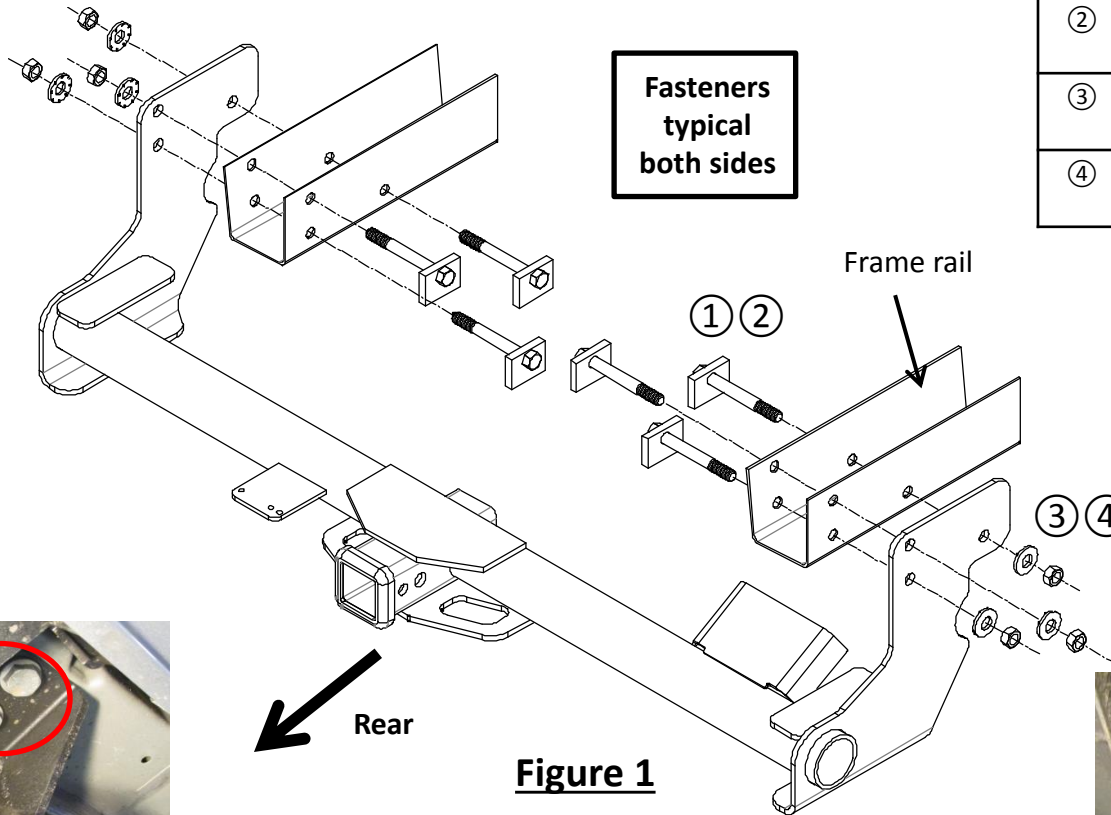

Figure 1
- Hitch installation** - raise the hitch into position and align bracket holes to outside frame rail holes. Inset bolt ① and block ② from inside of frame rail holes to the bracket holes, and loosely secure conical washer ③ and nut ④ to the hitch, see **Figure 1**.
2. Hitch installation - raise the hitch into position and align bracket holes to outside frame rail holes. Inset bolt ① and block ② from inside of frame rail holes to the bracket holes, and loosely secure conical washer ③ and nut ④ to the hitch, see **Figure 1**.